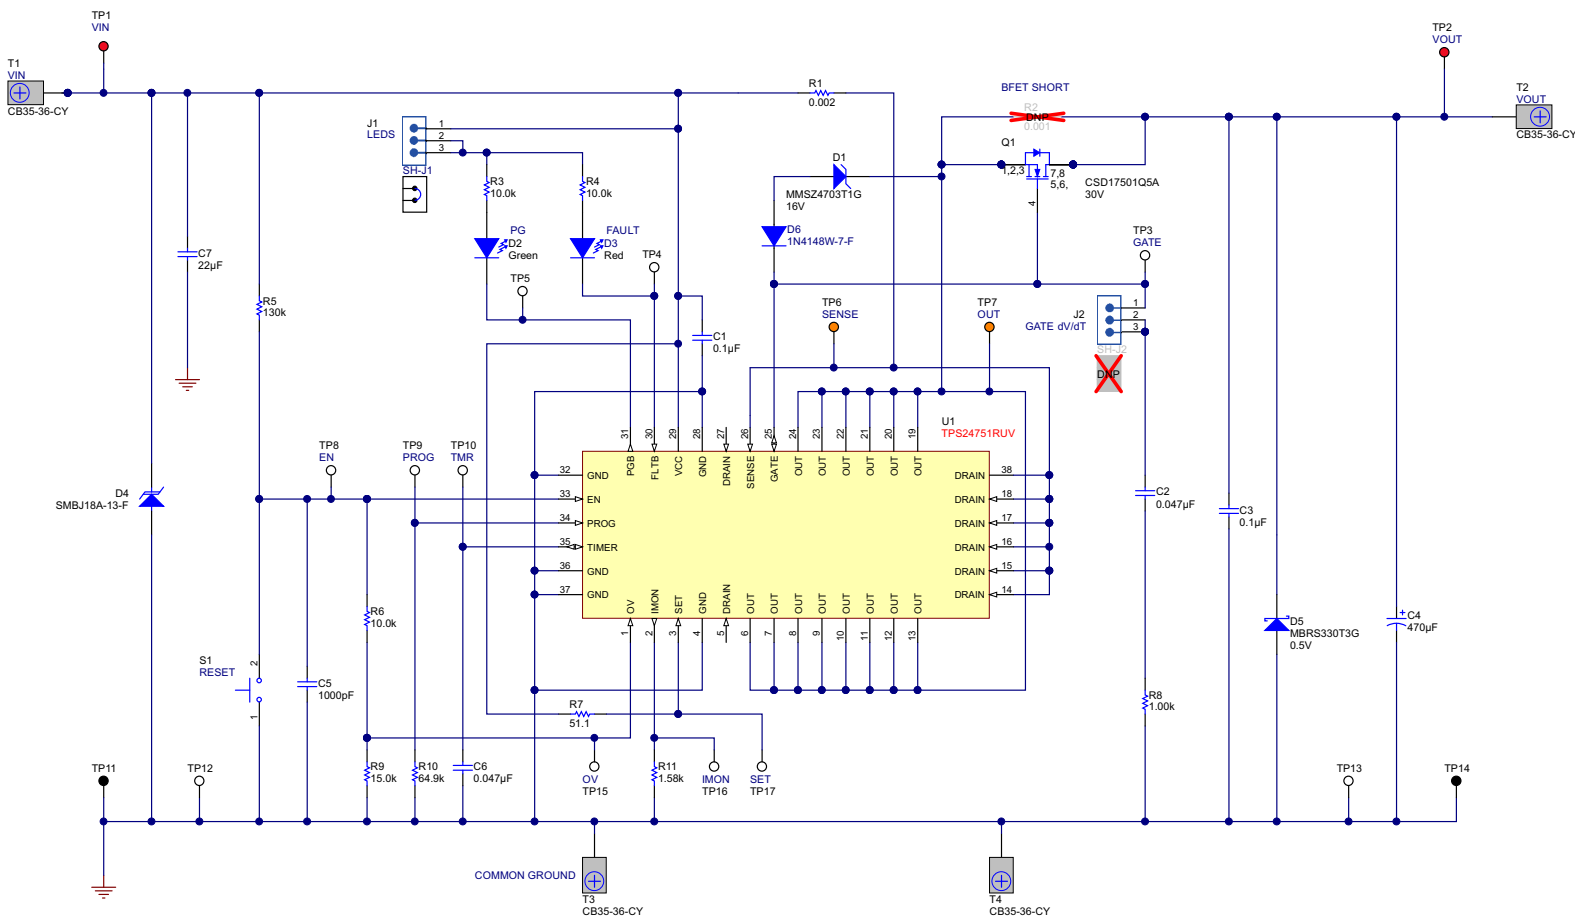

Figure 1. TPS2475XEVm Schematic
The TPS2475XEVM-546 enables full evaluation of the TPS2475X devices, refer to the schematic shown in Figure 1. Input power is applied at T1/T3 while T2/T4 provides the output connection to the load. D4/C1/C7 provides input protection for the TPS2475X (U1) while D5/C3/C4 provides output protection. S1 allows U1 to be RESET or disabled. A power good (PG) indicator is provided by D2 and circuit faults can be observed with D3.
The schematic for the EVM is shown in Figure 1